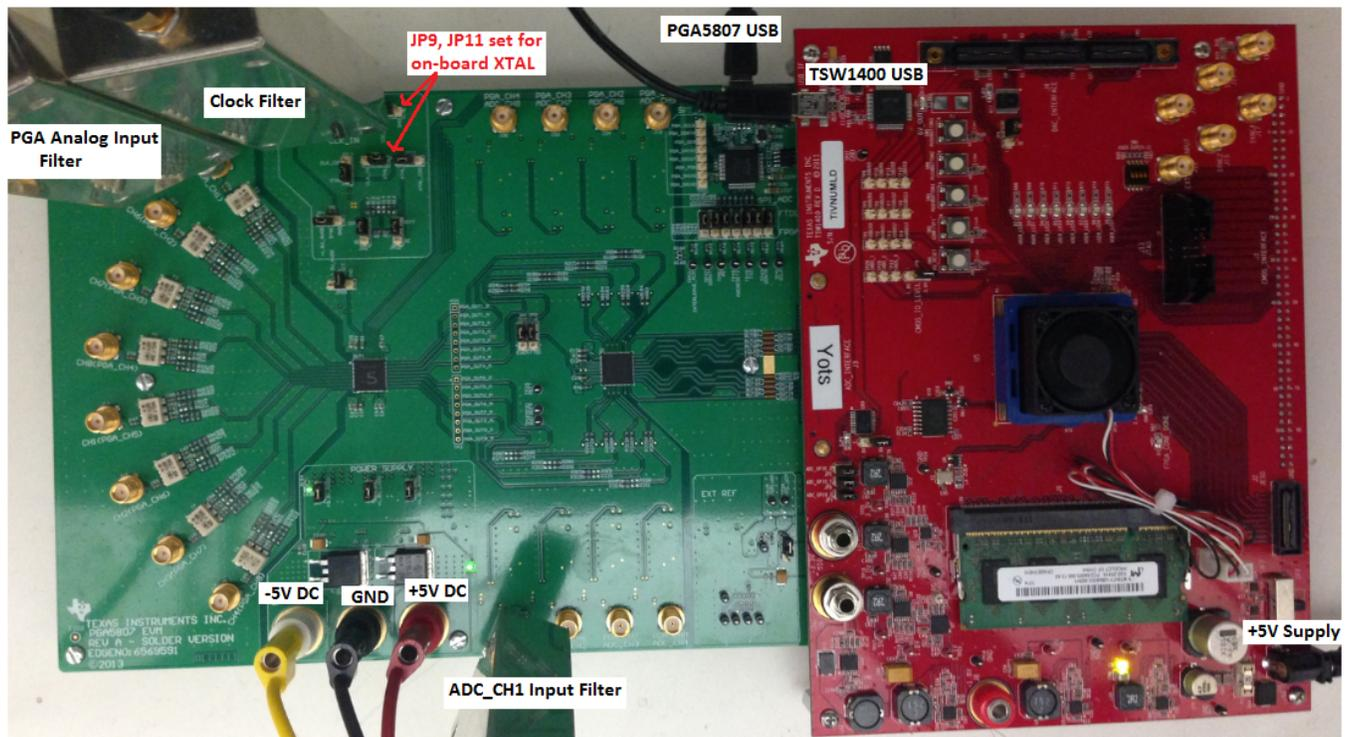
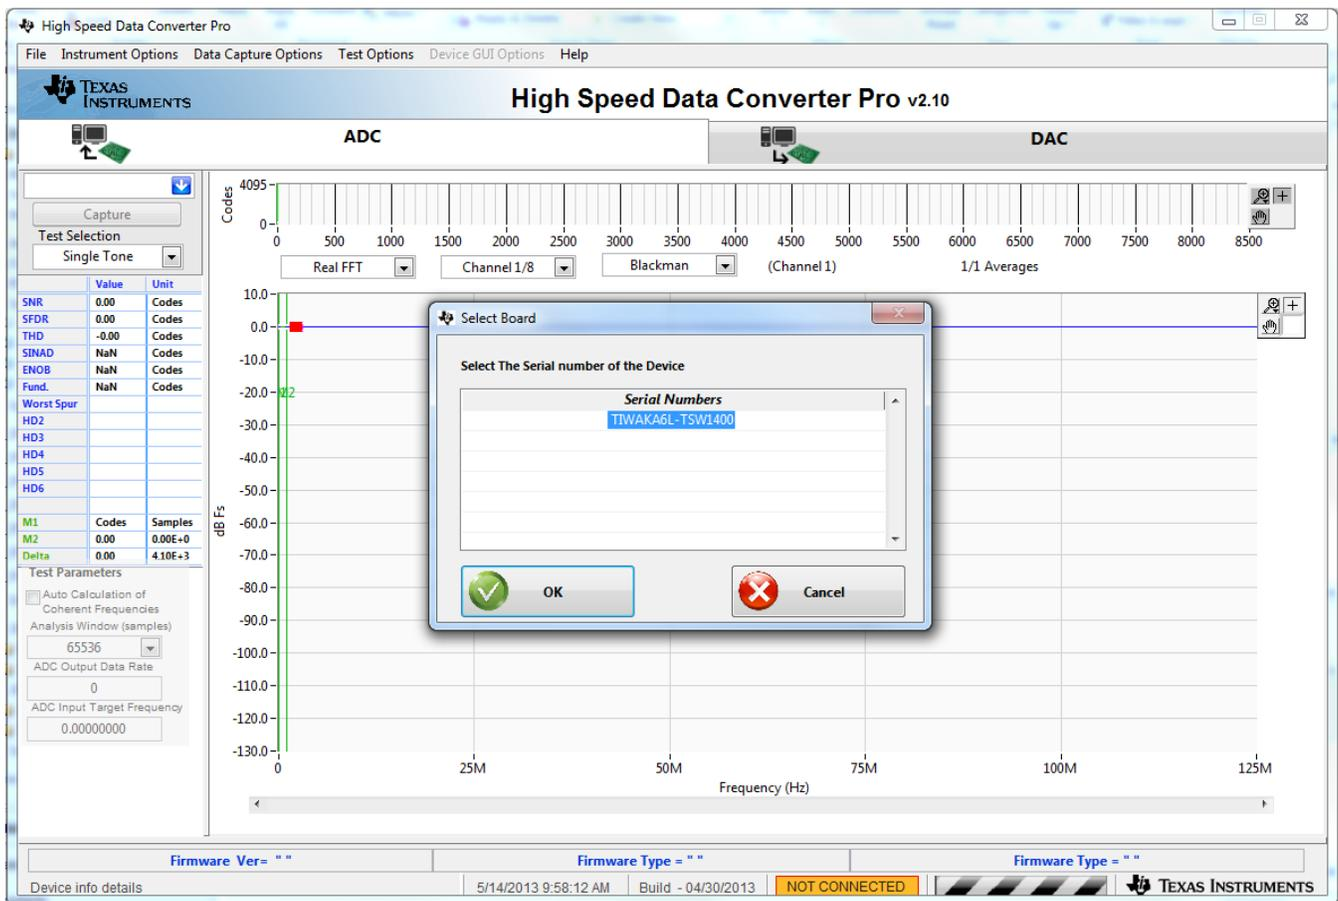

Figure 19. TSW1400 and PGA5807 Sptup
Figure 22. TSW1400 GUI Setup (a)
1. With the setup outlined in Figure 19 established, launch the *High Speed Data Converter Pro* GUI. The GUI should automatically detect the serial number of the TSW1400 EVM, connected as shown in Figure 22. Click on OK.